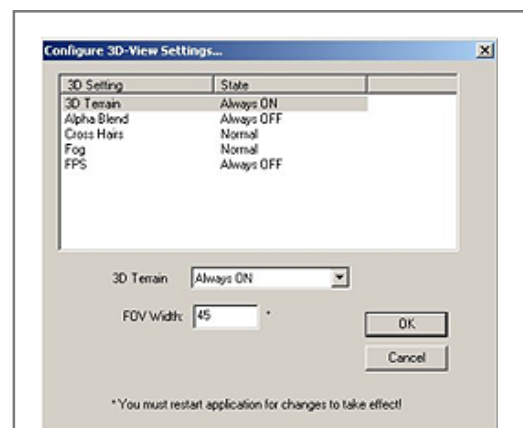

Figure 1. 3D Configuration Dialog
1. Open the Instructor Console (IC) by left clicking on the mortarboard icon () found in the Windows task bar tray typically at the (right side) bottom of the screen. If no icon is present, go to **Start | Programs | SubSkillsNet | Instructor Console**.
3. Select *View | Configure 3D Settings* from the menu bar. Figure 1 illustrates the options that may be selected to optimize system performance of the graphically intensive applications (SPOT, SurfCAT, and CAThead). The following settings can now be adjusted. You may have to proceed on a trial and error basis to find the proper mix of variables that work best, given your machine's capabilities.